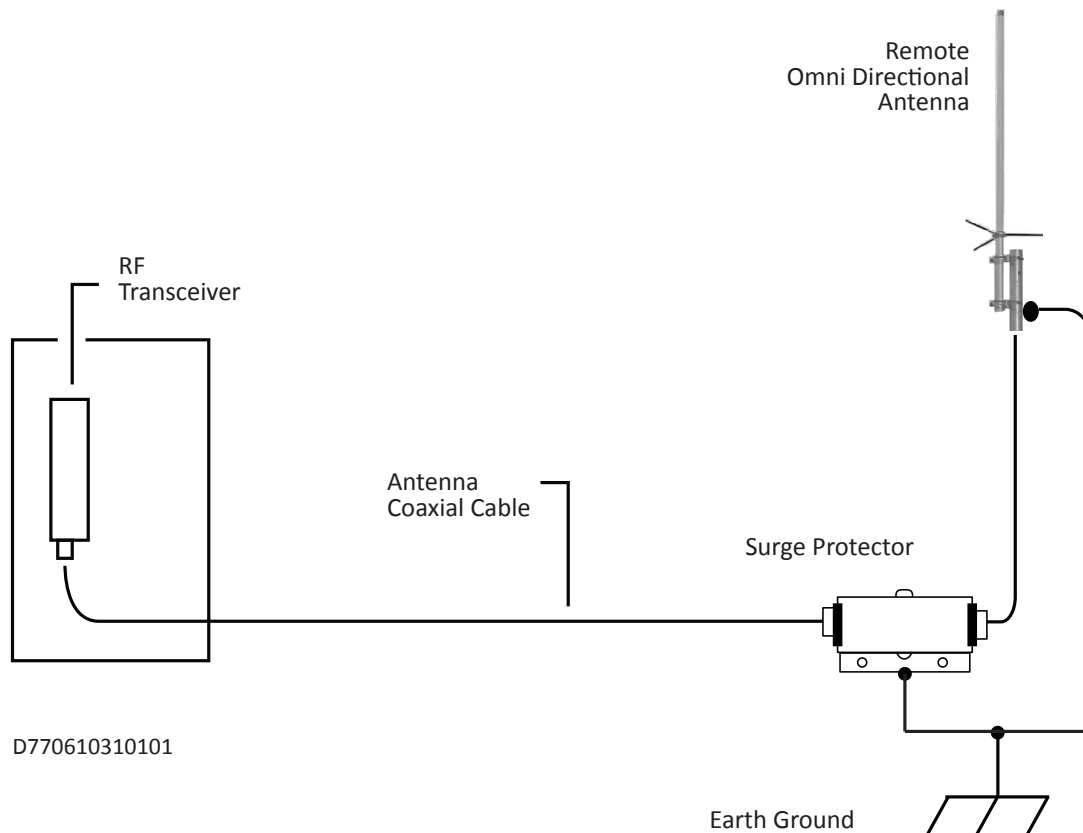

Figure 9. Grounding and Surge Protector for Transceiver with Remote Antenna Installation
The antenna must be installed in accordance with the National Electric Code and local electric code. A surge protector must be installed in line with any type of remotely installed antenna. Refer to Figure 9 on page 24 for installation details.
- The supplied case top tamper resistant flexible 2.5 dB antenna is mounted on the enclosure as shown in Figure 9 on page 24.
- A separately purchased remote antenna may be used with the 7706-UL unit in UL installations. Contact AES at (800) 237-6387 or info@aes-intellinet.com for a selection of antennas suitable for use with your subscriber unit. Refer to "Table 8: UHF Antenna Options" on page 22 for information on antennas available from AES.
Figure 9 shows the grounding and surge protector for the transceiver with a remote antenna installation.